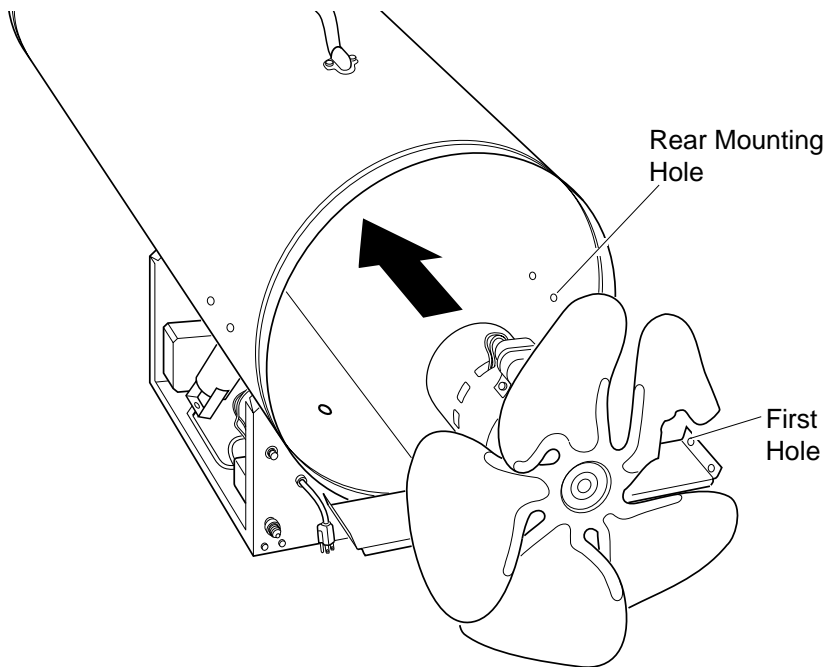

Figure 8 - Fan and Motor Turned Around
8. Turn motor and fan around. Place motor and fan into shell backwards. **Note:** Motor will go into shell first (see Figure 8, page 11).
9. Line up rear mounting holes in shell with first hole on each side of motor mount (see Figure 8).